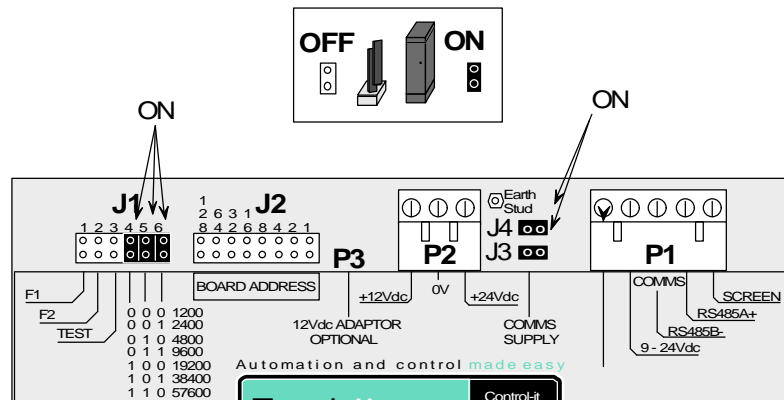

Figure 3 - Jumper settings.
1. Check that all jumpers are placed as per figure 3 below. (For more, refer to page 15.)